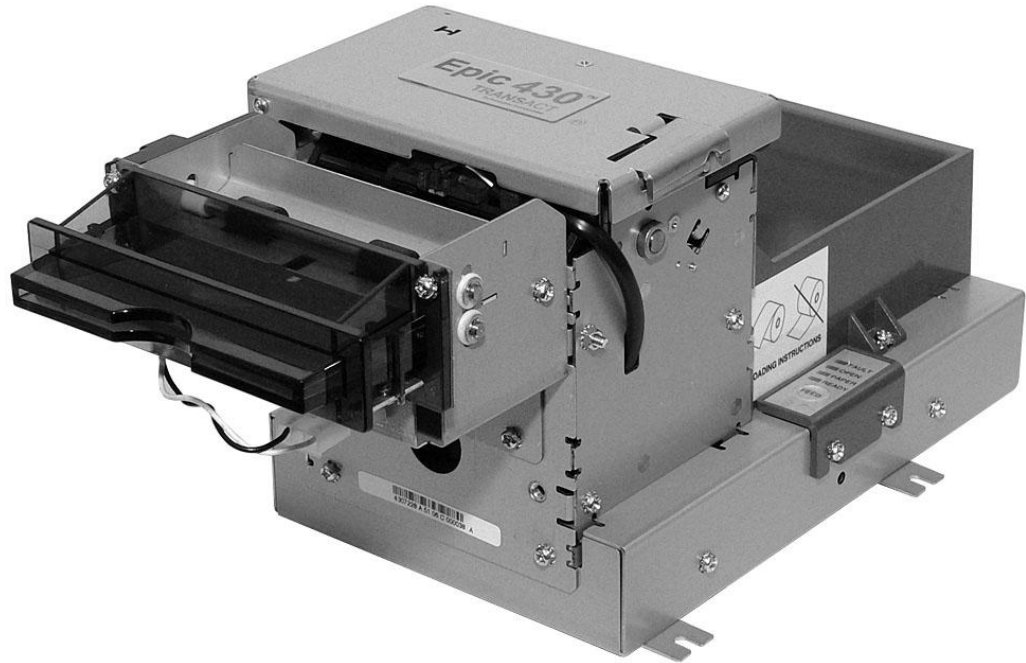

Figure 1. Epic 430™ Printer.
- Unified Model (base mounted on printer mechanism as shown Figure 1)